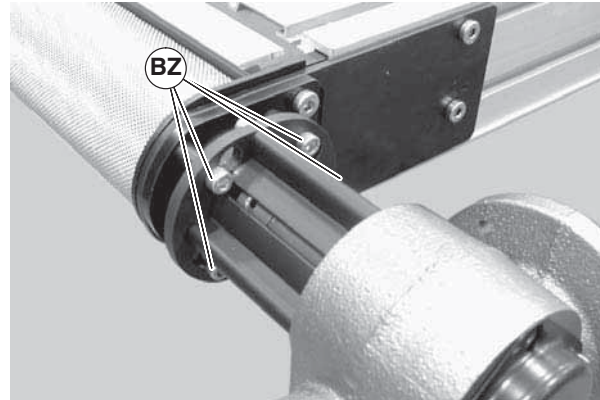

Figure 63
- c. Rotate and remove the gear motor and guard assembly (Figure 63, item CA).